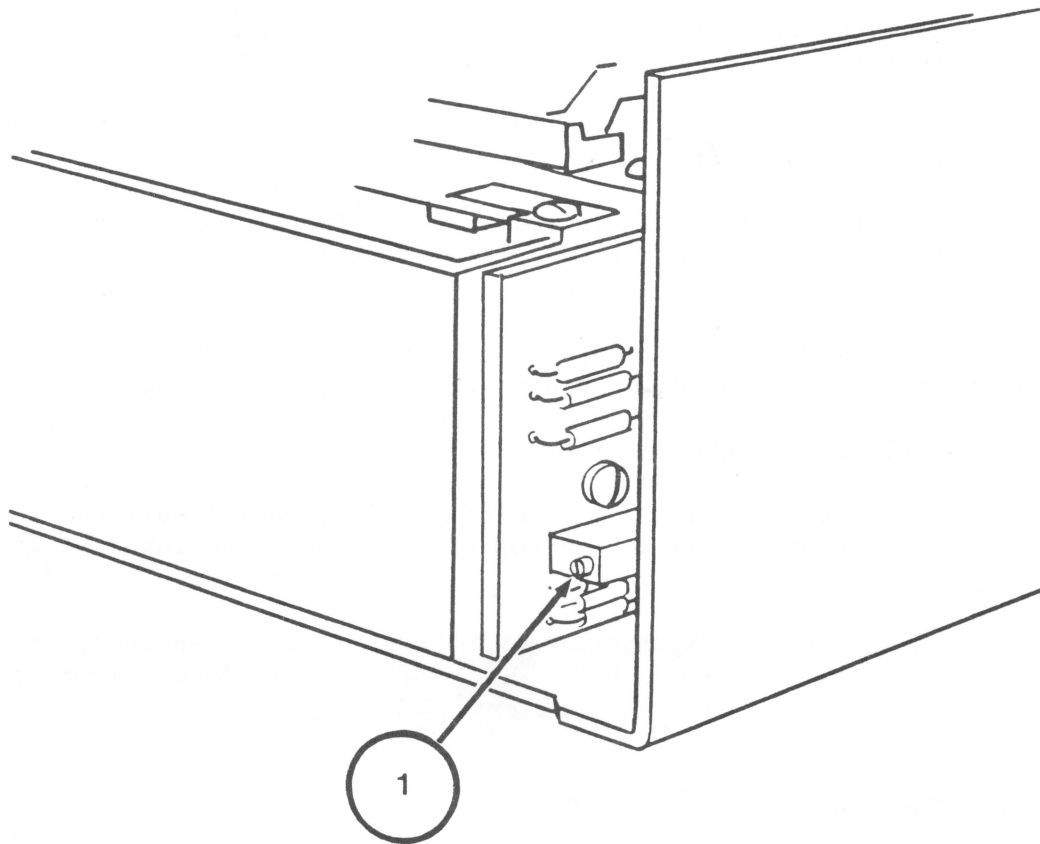

FIGURE 11
8. Look at the back of the drive mechanism. Locate the Motor Control Card, mounted on the edge, and note the small grey helipot with a screwdriver adjustment on the side (Figure 11, #1).